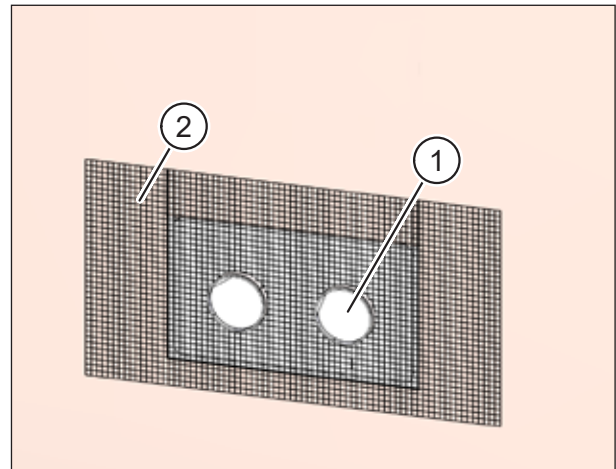
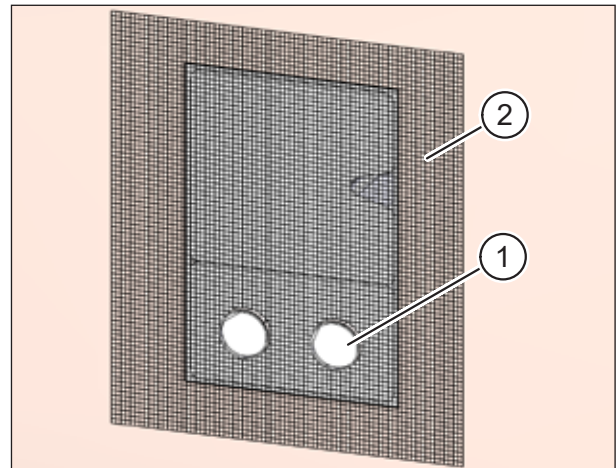

Fig. 36: Plastering the installation kit **without** filler piece
Fig. 37: Plastering the installation kit **with** filler piece
- ▶ Insert the protective sleeves (item 1 in Fig. 36 and Fig. 37). They should extend beyond the wall so that they will end flush with the subsequent plaster coat. The protective sleeves provide the bonding surface for the external plaster.
- ▶ Apply the plaster scrim (item 2 in Fig. 36 and Fig. 37) to the outside of the wall box, external wall and/or facade insulation.